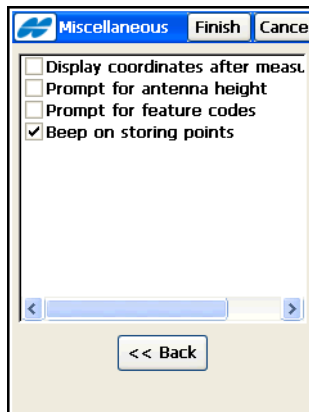

Figure 4-28. Miscellaneous
18. On the *Miscellaneous* screen (Figure 4-28), select the necessary options to customize the user interface during GPS measurements: display of computed coordinates, prompts for antenna height and feature codes, and beeps upon storing points.